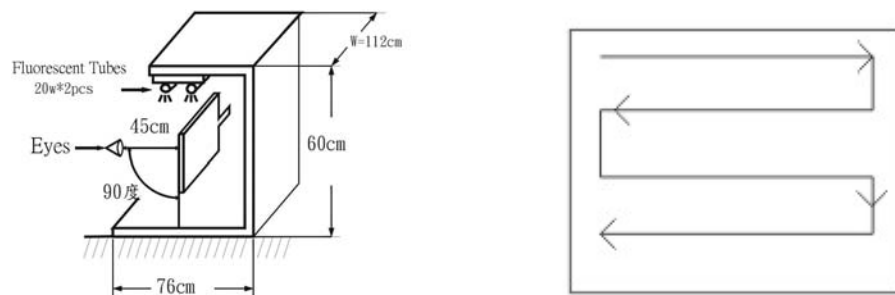

Figure 11-1
(2) The inspection was performed with two 20W(1800±500 LUX) fluorescent lamp lighting from back or side. The panel was placed 45cm away from eyes. (Figure 11-1).
[(2) 檢測始用之燈光為二盞 20W(1800±500 LUX) 白熾燈光，並於面板後側或上側照射，檢測時須放置在離眼睛 45cm 處(Figure11-1)]